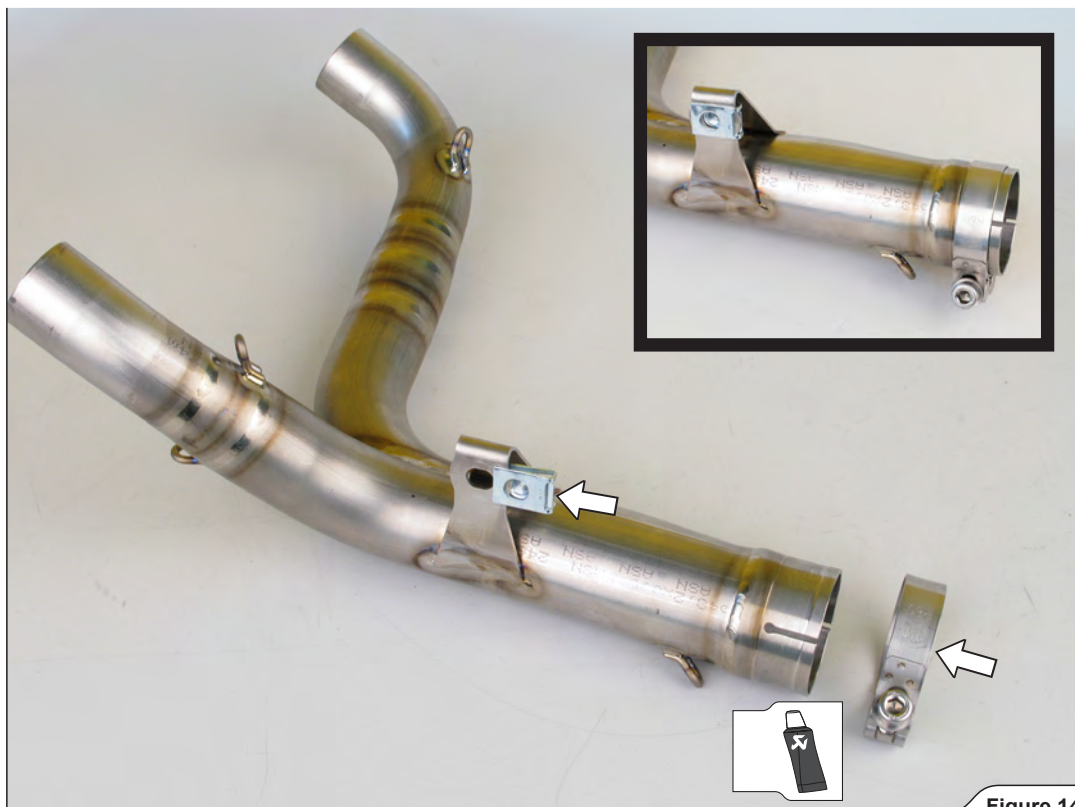

Figure 14
6. Assemble the clamp and u-clip cage nut from Akrapovič installation kit onto the link pipe, as shown (Figure 14).